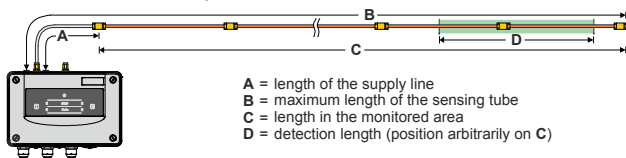

Fig. 4 Sensing tube lengths definition
Length of the sensing tube per evaluation channel ① (Fig. 4 "B")